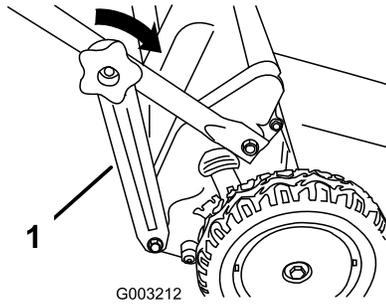

Figure 7
6. Attach the handle brackets (Figure 7) to the lower handle sides.